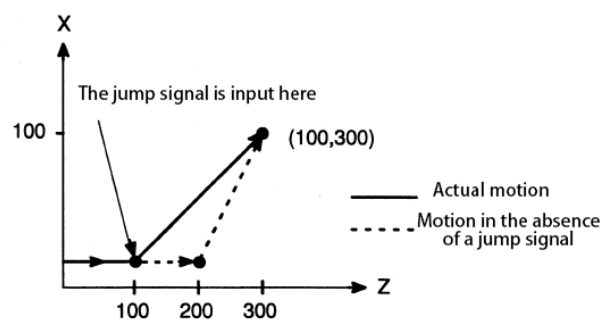

Figure 3-15
- 10) The next program segment of the G31 is the programming of absolute coordinates of the 2 axes, see Figure 3-15